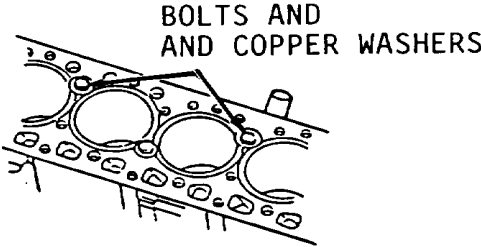

Figure 13-38.
- 2. Install 12 3/4 x 3NF bolts and 24 3/4 inch copper washers (Figure 13-38) in block to secure top plate and cylinder liners. Use two washers for each bolt. Tighten bolts in two steps, 15 ft-lb, then 40 ft-lb torque.